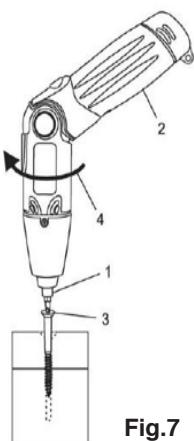

Fig.7
2. Insert the bit fully into the screwdriver collet (1) (Fig. 7).
3. Pivot handle to a comfortable position (2).